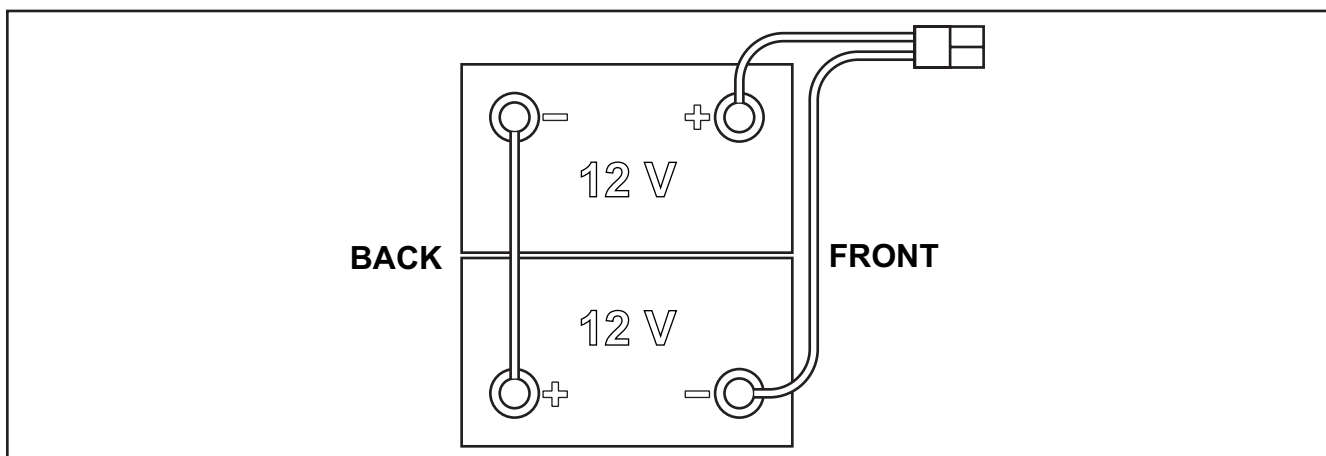

Figure 8:
7. Route and install the battery cable as shown in the diagram (Figure 8), then carefully tighten the nut on each battery terminal.